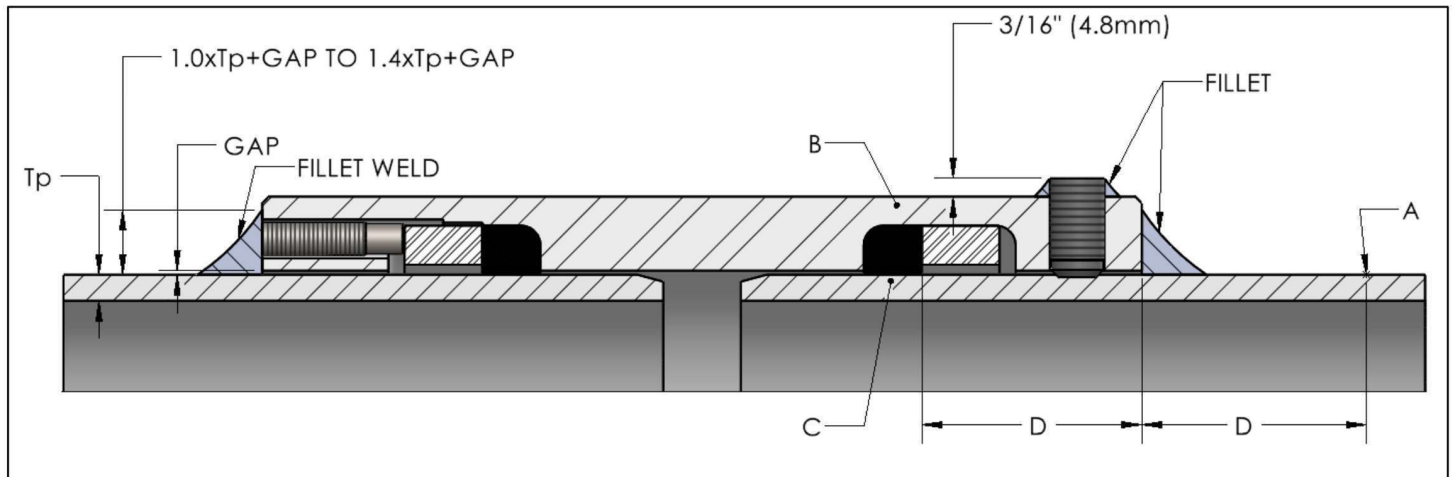

Figure 7
Dimension "D", as measured during the initial installation, should now be used to mark off locations "A" and "B", as shown in Figure 7. These locations are the same distance from the weld as the seal location "C". To prevent damage to the seals, monitor the heat generated by welding or preheating, particularly at location "A" and "B", by using temperature crayons or probe thermometers. If the heat generated approaches the temperature limit of the seal material as indicated on the product label, welding should be discontinued or sequenced to another part of the fitting so that the affected area has a chance to cool.
2. Add fillet welds to the ends of the Weld+Ends around the circumference of the pipe and seal weld the ends of the cut off thrust screws. The fillet weld height should be between $(1 \times T_p) + \text{gap}$ and $(1.4 \times T_p) + \text{gap}$ where " T_p " is the thickness of the pipe and "gap" is the root opening or distance from the OD of the pipe to the ID of the Weld+Ends (See Figure 7)